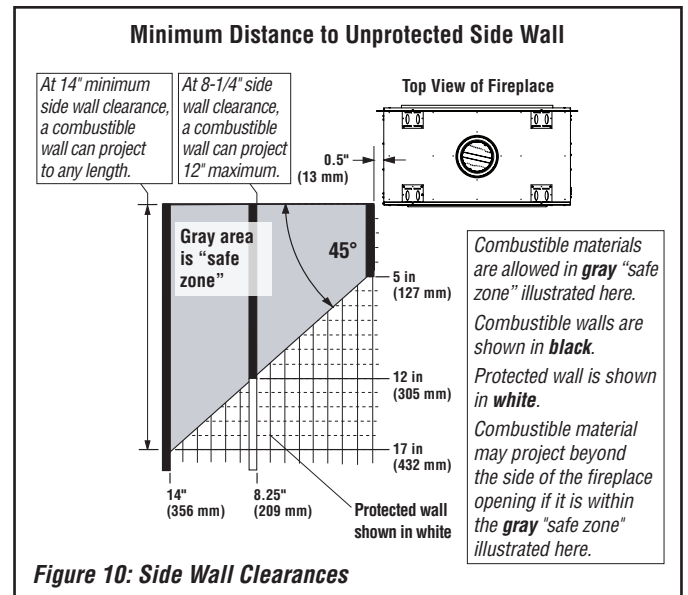

Figure 10: Side Wall Clearances
- Combustible material may project beyond the sides of the fireplace opening, as long as it is within the shaded area shown in **Figure 10 on Page 11**.